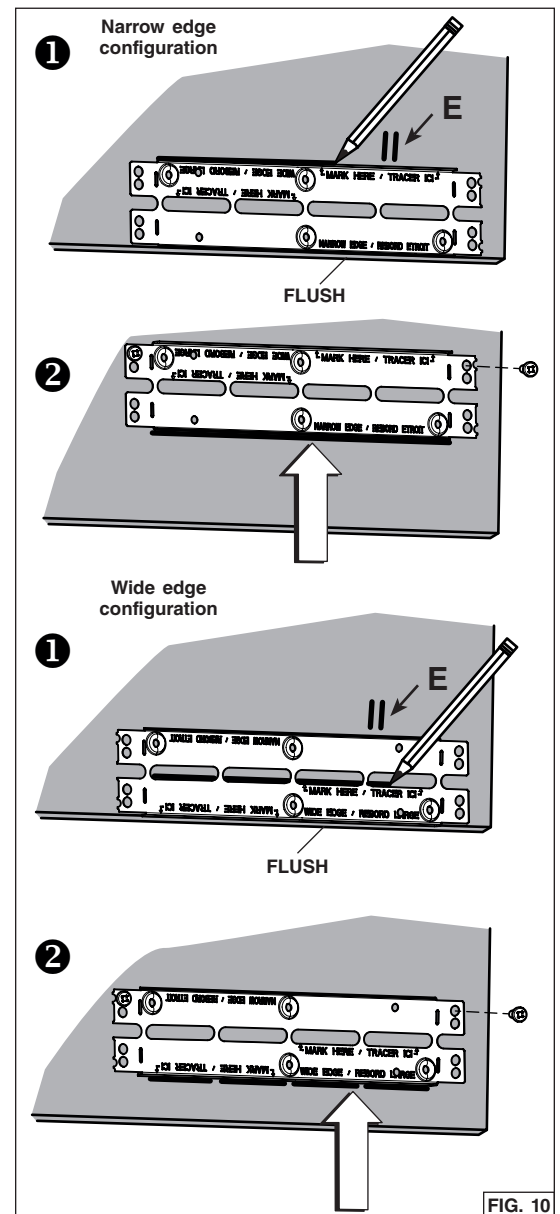

FIG. 10
5. Pay attention to the Ease of Install hooks location on the unit (distance given from unit front flange, FIG. 9). Measure and mark the position of the Ease of Install hooks (shown as E in FIG. 10 on next page) on both cabinet side walls.
6. Install the cabinet brackets as follow (FIG. 10):
- 1 Align the bracket flush with the bottom of the right cabinet side panel, with the hooks marked position (E) between the bottom embossed holes. For the narrow edge configuration, trace a line on the top of the bracket. For wide edge configuration, trace a line at the bottom of the central slots.